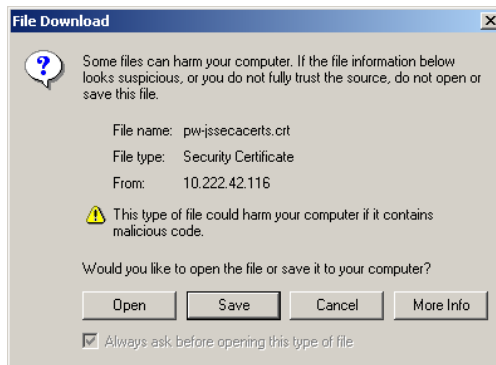

Figure 25. File Download Dialog
3. Select **Root CA Certificate of ConnectUPS Web/SNMP Card for Java Plug-in**. The File Download dialog opens (see Figure 25).